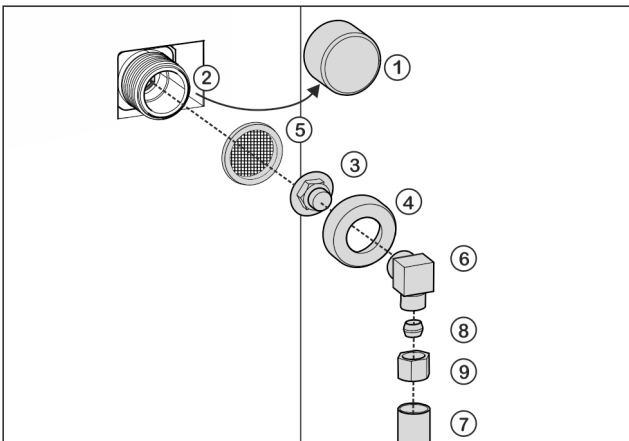

Fig. 19
- ▶ Remove cap Fig. 19 (1) from solenoid valve Fig. 19 (2).
- ▶ Insert coupler Fig. 19 (3) into union nut Fig. 19 (4).
- ▶ Insert the filter Fig. 19 (5) with the recess pointing down towards the coupler Fig. 19 (3).
- ▶ Screw the union nut Fig. 19 (4) by hand onto the thread of the solenoid valve Fig. 19 (2) until it is firmly in place.
- ▶ Screw on angle piece Fig. 19 (6).
- ▶ Connect the water pipe Fig. 19 (7) (e. g. 1/4" OD copper pipe) with the clamp ring Fig. 19 (8) and nut Fig. 19 (9) to the elbow connector Fig. 19 (6).
- ▶ If necessary: Fasten the water pipe Fig. 19 (7) to the housing with the guide clip.
- ▶ Put angle piece Fig. 19 (6) to one side.
- ▶ Connect the water pipe Fig. 19 (7) (e. g. 1/4" OD copper pipe) with the clamp ring Fig. 19 (8) and nut Fig. 19 (9) to the coupler Fig. 19 (3).